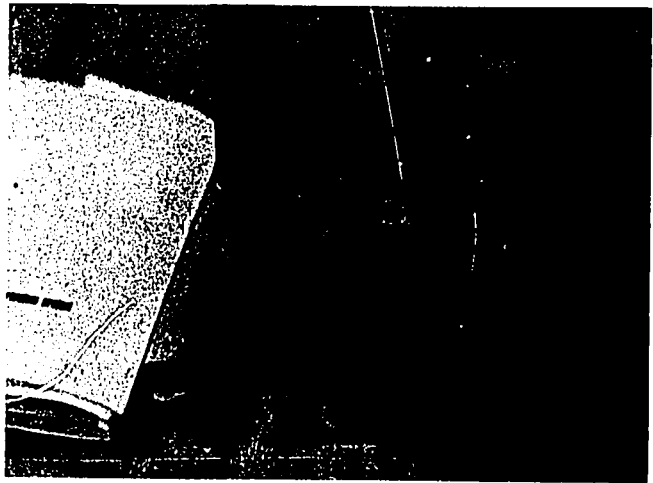

Fig. 4A-22B. Testing the Airframe
3. *Strength.* The stronger the construction of the rocket parts, the better they will perform during flight and handling. Set up the postal scale and airframe as shown in Fig. 4A-22. Place each airframe against a book and press the rule against the airframe. As soon as the airframe starts to give (dent), read the ounces of force. Record the ounces of force in Fig. 4A-21.